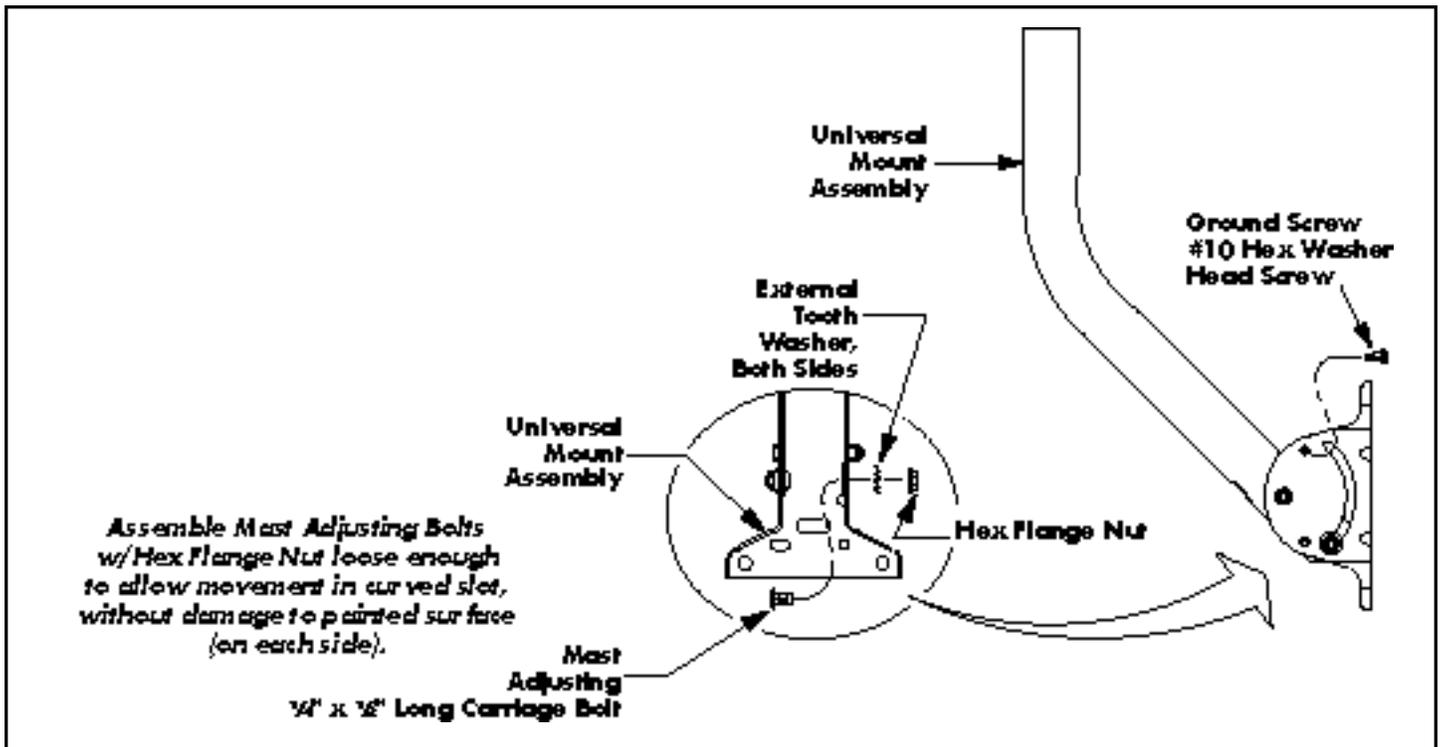

FIGURE 1
1. On the universal mount assembly, insert (2) $\frac{1}{4}$ " x $\frac{1}{2}$ " long carriage bolts through the mast and bracket slot and capture with an external tooth washer and flange nut. Install a #10 self-tapping screw for ground wire attachment. See Figure 1.